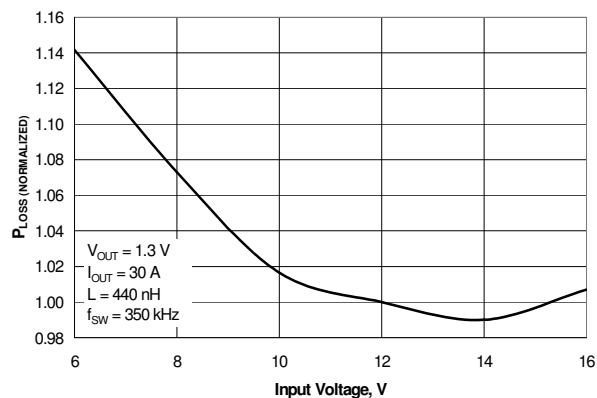

Figure 10. Power Loss vs. Input Voltage
* May be operated at lower input voltage. See figure 10.